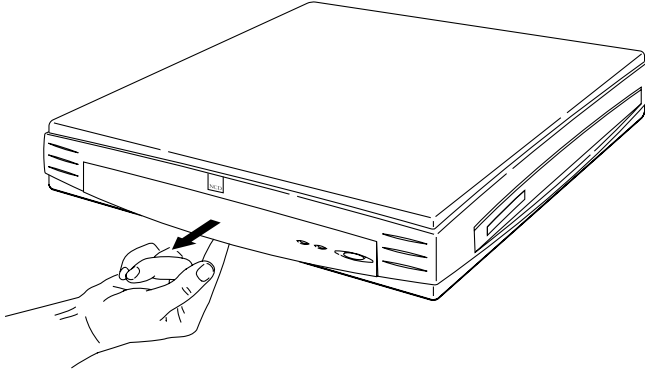

Figure 5-2 Removing the Front Control Panel
3. Use your finger to release the clip on the front control panel and remove the panel. See Figure 5-2.
5. Lift the top section up at the front so you can slide the top's tabs from the bottom section's slots to separate the cover from the bottom. See Figure 5-2.